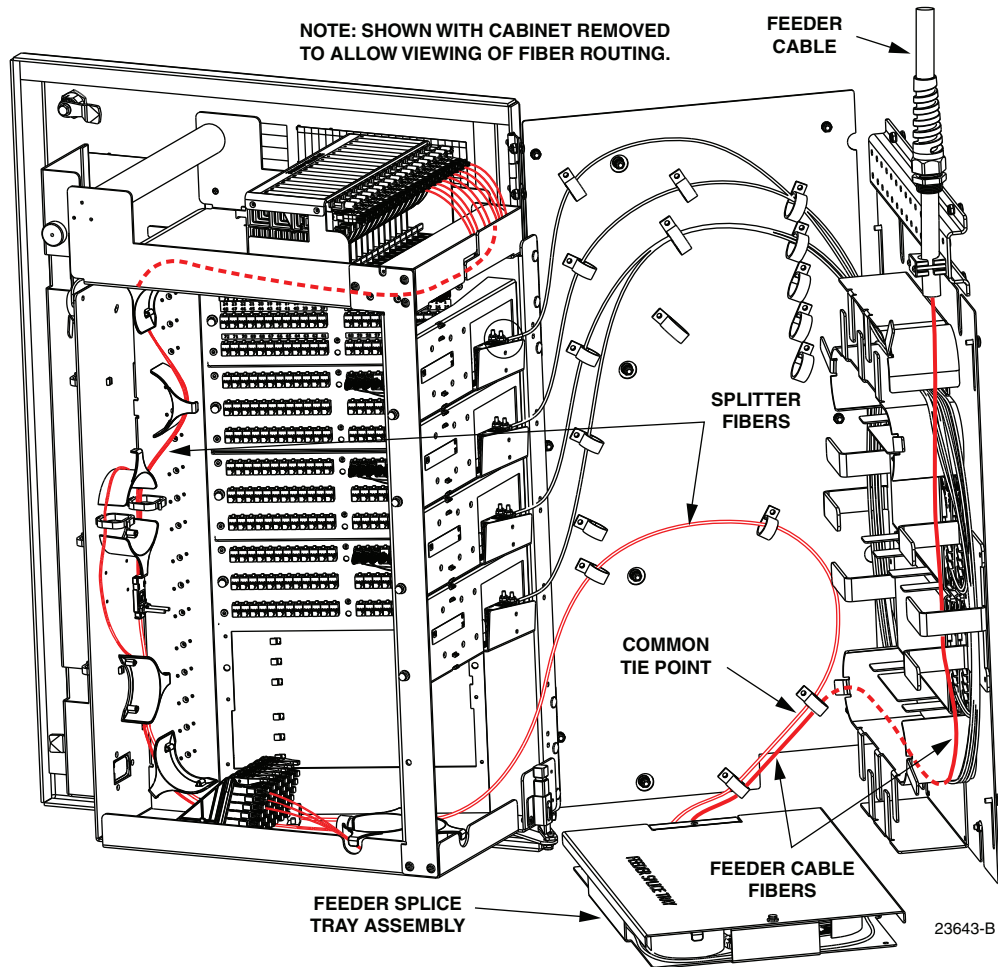

**Figure 25. Feeder Splice Tray Replacement**
12. To replace the splice tray, route the attached tubes around the splice tray holder radius limiters (there should be two service loops) as shown in Figure 25. Avoid twisting or kinking the fiber tubes. Maintain a 1.5-inch (3.81 cm) minimum bend radius for all non reduced bend radius fiber.
12. To replace the splice tray, route the attached subunits (there should be two service loops) around the splice tray holder radius limiters (see Figure 25). Avoid twisting or kinking the fiber subunit tubes. Maintain a 1.5-inch (3.81 cm) minimum bend radius for all non reduced bend radius fiber.